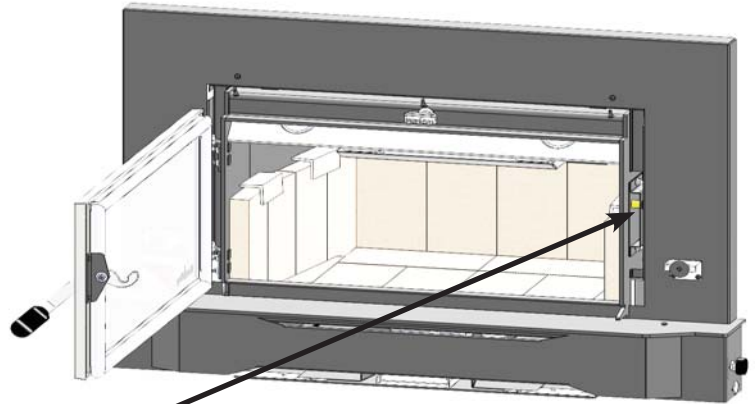

Fig. 22
3. To tighten the door tension use a  $7/16$ " wrench to loosen the two nuts on the latch cover. Slide the latch cover towards the back of the appliance and tighten nuts. (Fig. 22) Repeat paper test (see "LOADING DOOR GASKET INSPECTION" on page 37).